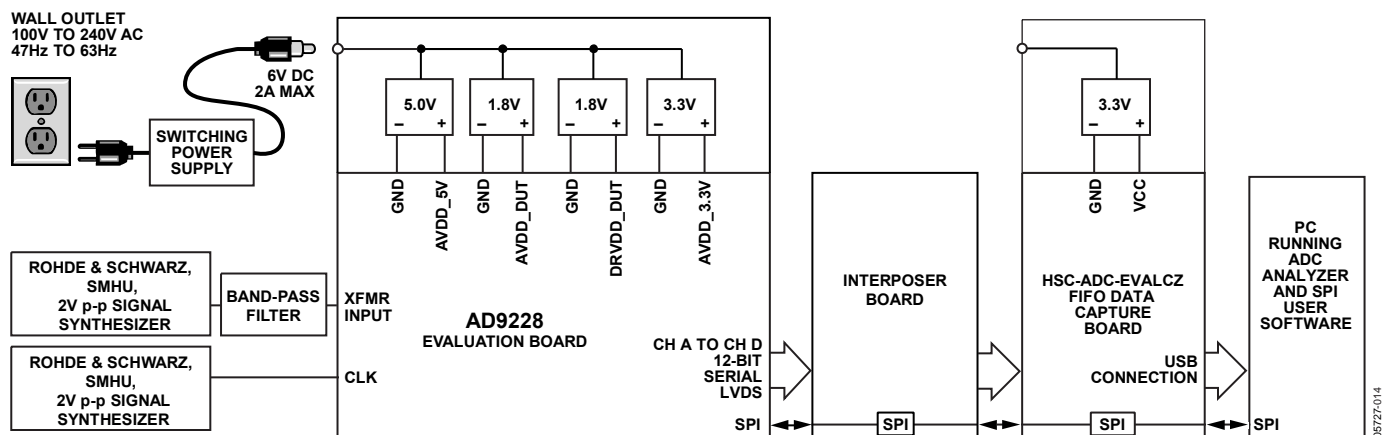
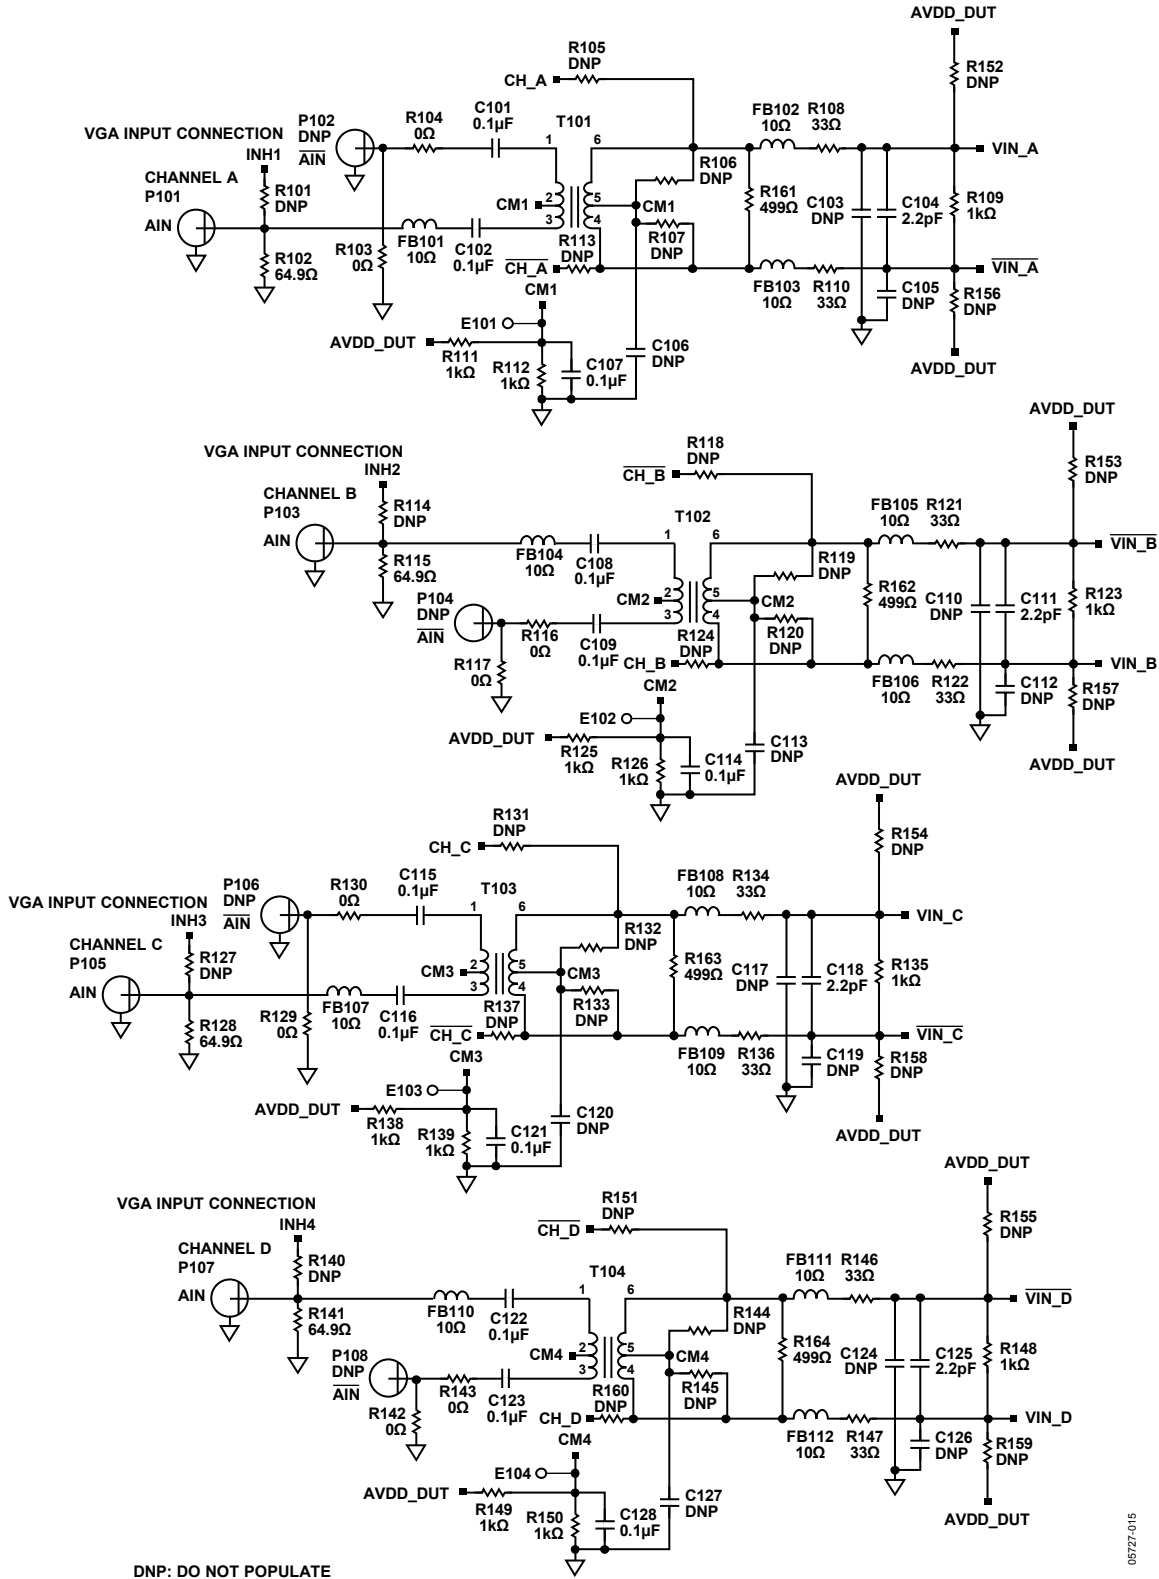
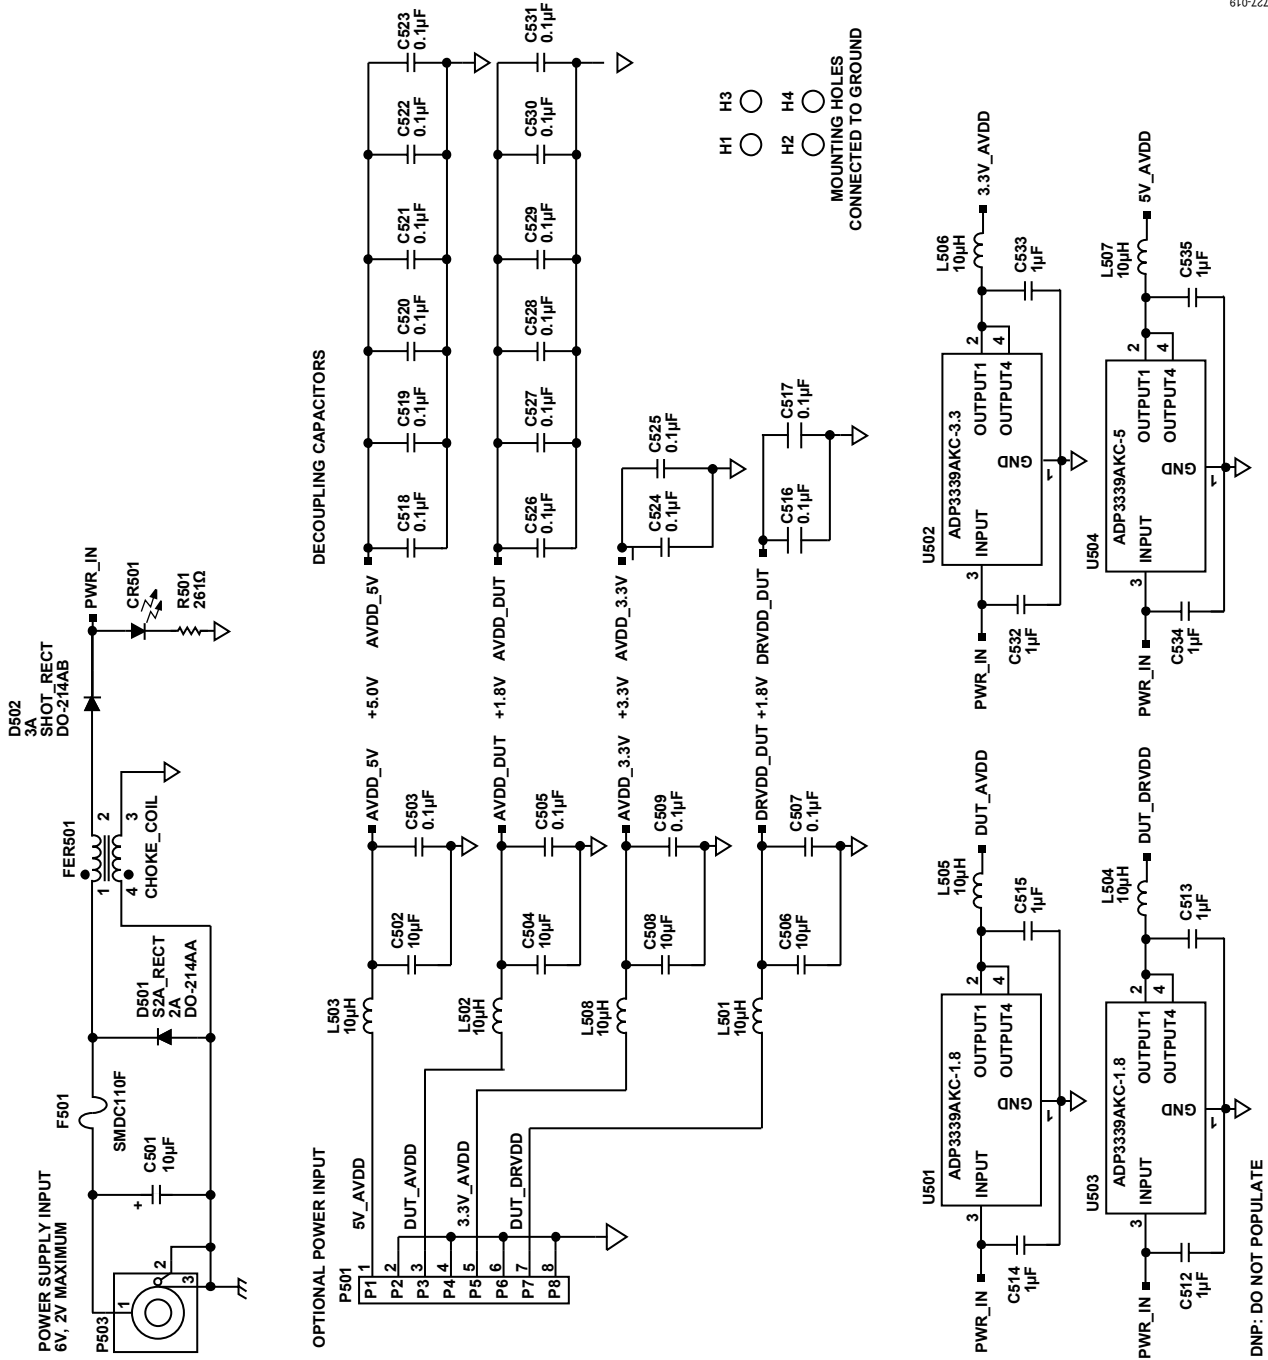

Figure 71. Evaluation Board Connection
Figure 73. Evaluation Board Schematic, DUT Analog Inputs
Figure 77. Evaluation Board Schematic, Power Supply Inputs
The AD9228 evaluation board provides all of the support circuitry required to operate the ADC in its various modes and configurations. The converter can be driven differentially using a transformer (default) or an AD8332 driver. The ADC can also be driven in a single-ended fashion. Separate power pins are provided to isolate the DUT from the drive circuitry of the AD8332. Each input configuration can be selected by changing the connection of various jumpers (see Figure 73 to Figure 77). Figure 71 shows the typical bench characterization setup used to evaluate the ac performance of the AD9228. It is critical that the signal sources used for the analog input and clock have very low phase noise (<1 ps rms jitter) to realize the optimum performance of the converter. Proper filtering of the analog input signal to remove harmonics and lower the integrated or broadband noise at the input is also necessary to achieve the specified noise performance.
See Figure 73 to Figure 81 for the complete schematics and layout diagrams demonstrating the routing and grounding techniques that must be applied at the system level.
- **D + x, D - x:** If an alternative data capture method to the setup shown in Figure 73 is used, optional receiver terminations, R206 to R211, can be installed next to the high speed back-plane connector.